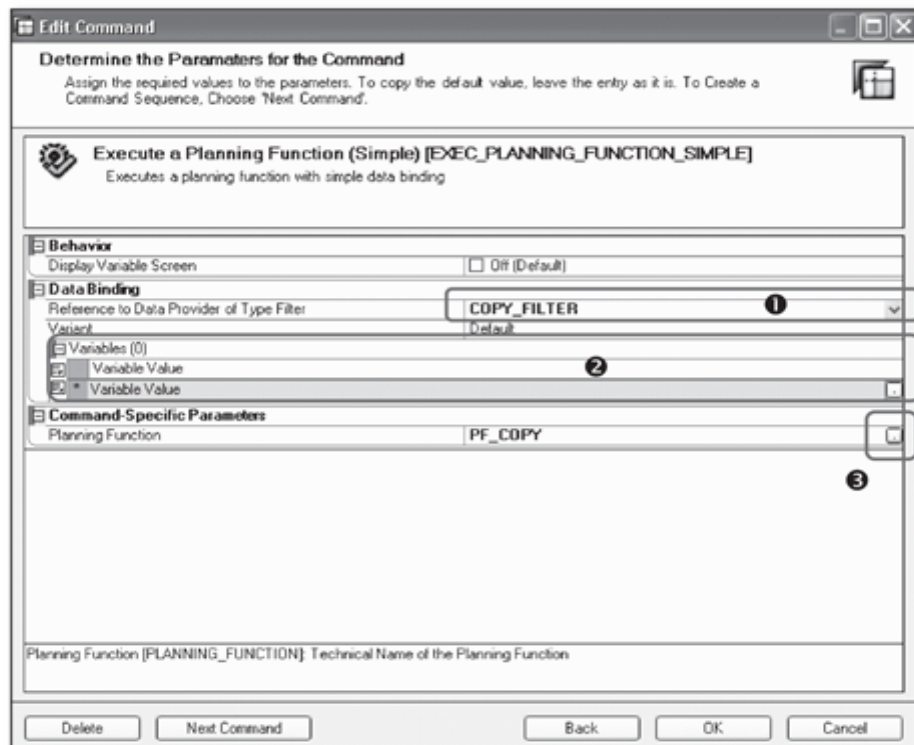

Figure 12.101 Define Parameters for the Command
15. Define the parameters for the planning function command on the next screen (Figure 12.101). The most important setting is to define the filter for the planning function. Select the `COPY_FILTER` data provider, which is based on a filter (❶). You can also maintain any default values for the variables used in the planning function under the Variant area of the screen (❷). Finally, assign the required planning function to the command using the selection help (❸). Click OK to complete the command setting, and then click OK on the button definition screen to confirm the definition.